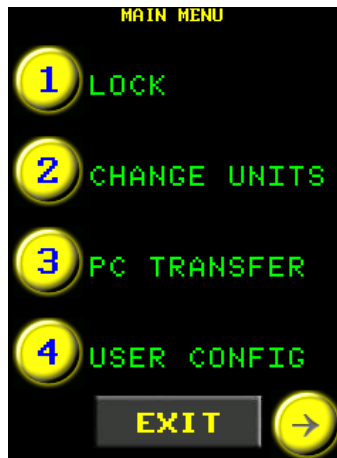

Figure 5.2-1: Main Menu
2. Select “Change Units” from the Main Menu (Figure 5.2-1).